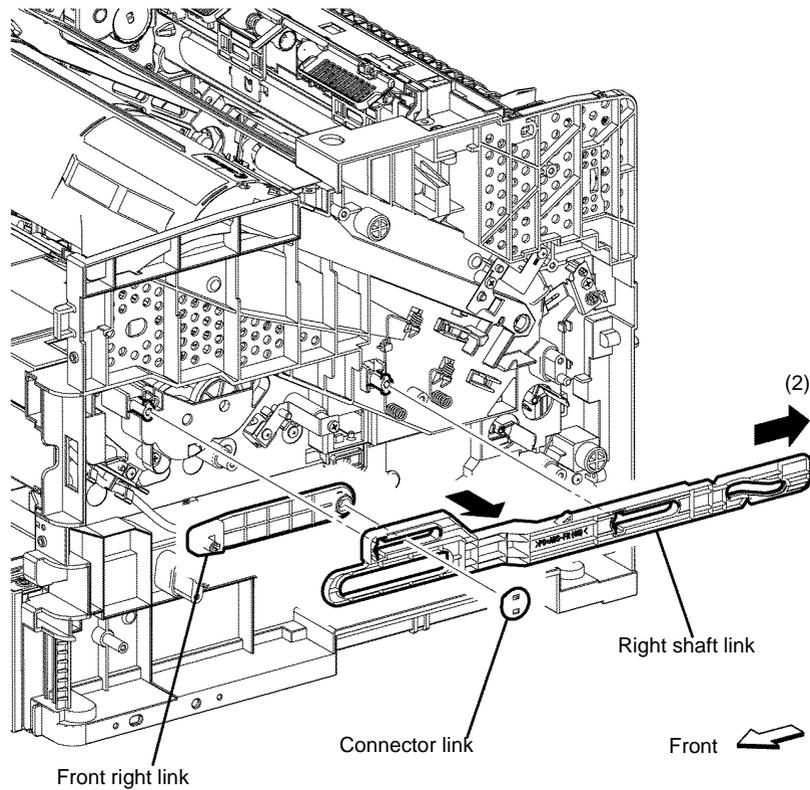

Figure 1 Right link shaft removal
9. Remove the right shaft link by bending it outside from inside the printer, Figure 1.